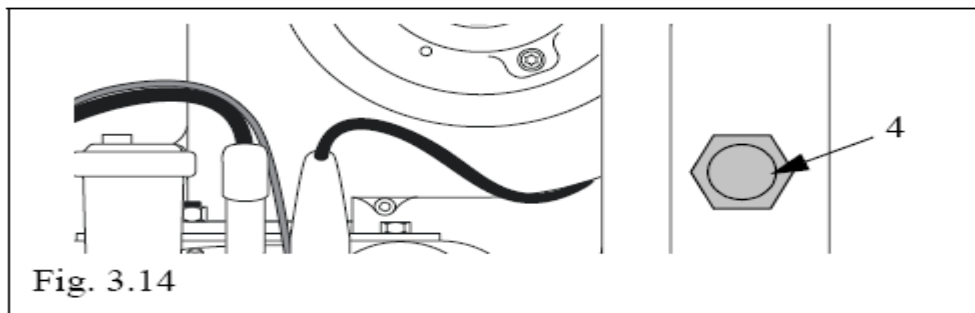

Fig. 3.14
- Burning is checked by removing the 4 cover in figure 3.14. (4) is replaced by the analysis probe.